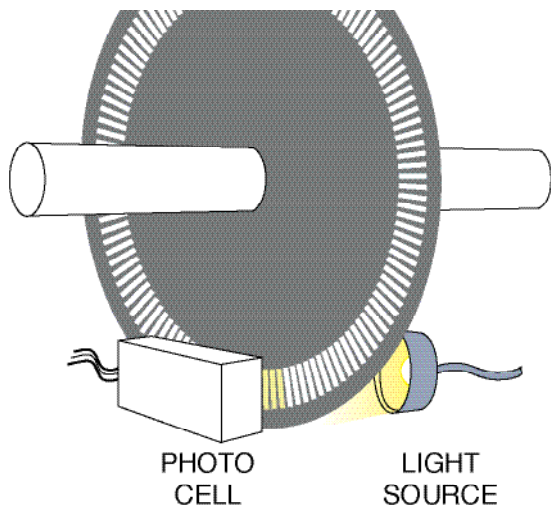

Fig 1
**Optical electronic failure.** Typical encoder construction uses optical sensors with a glass disk. Lines on the disk interrupt a light beam to a photoeye. (Fig 1)